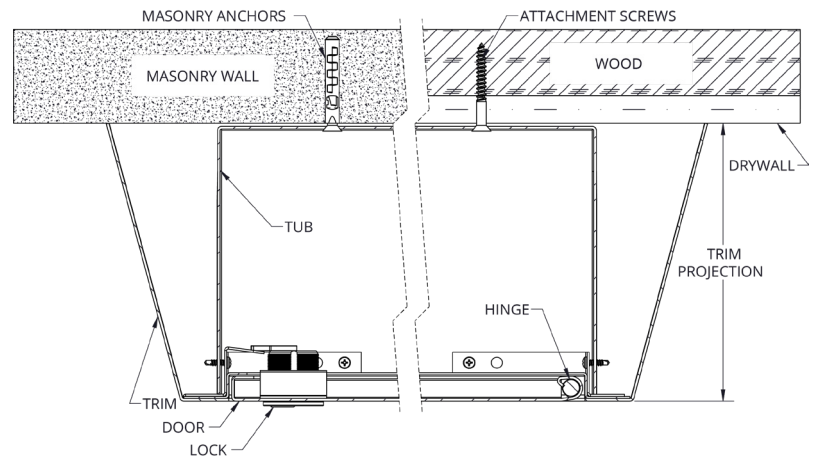

FIG 5
3. Remove cabinet and drill 5/32" (4 mm) holes through studs at marked points. Install plastic wall anchors. For masonry walls, install expansion shields. (FIG 5)